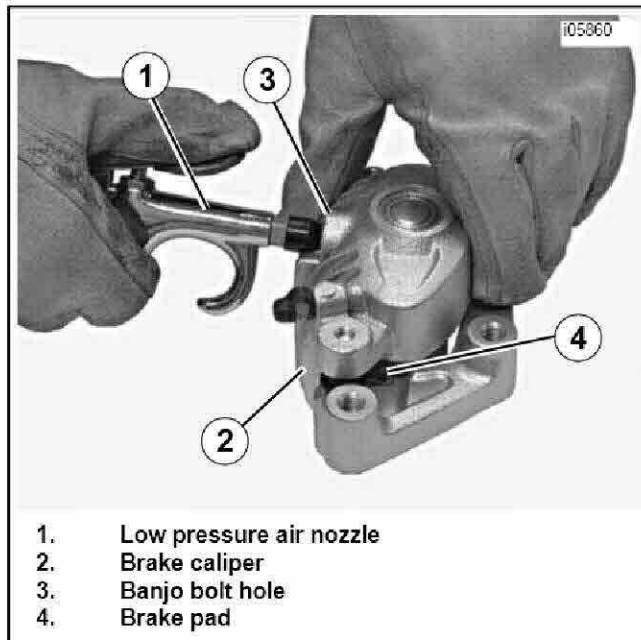

Figure 6. Removal Pistons
6. See Figure 6. Gently apply low pressure compressed air to banjo bolt hole (3) to force pistons from caliper bores.